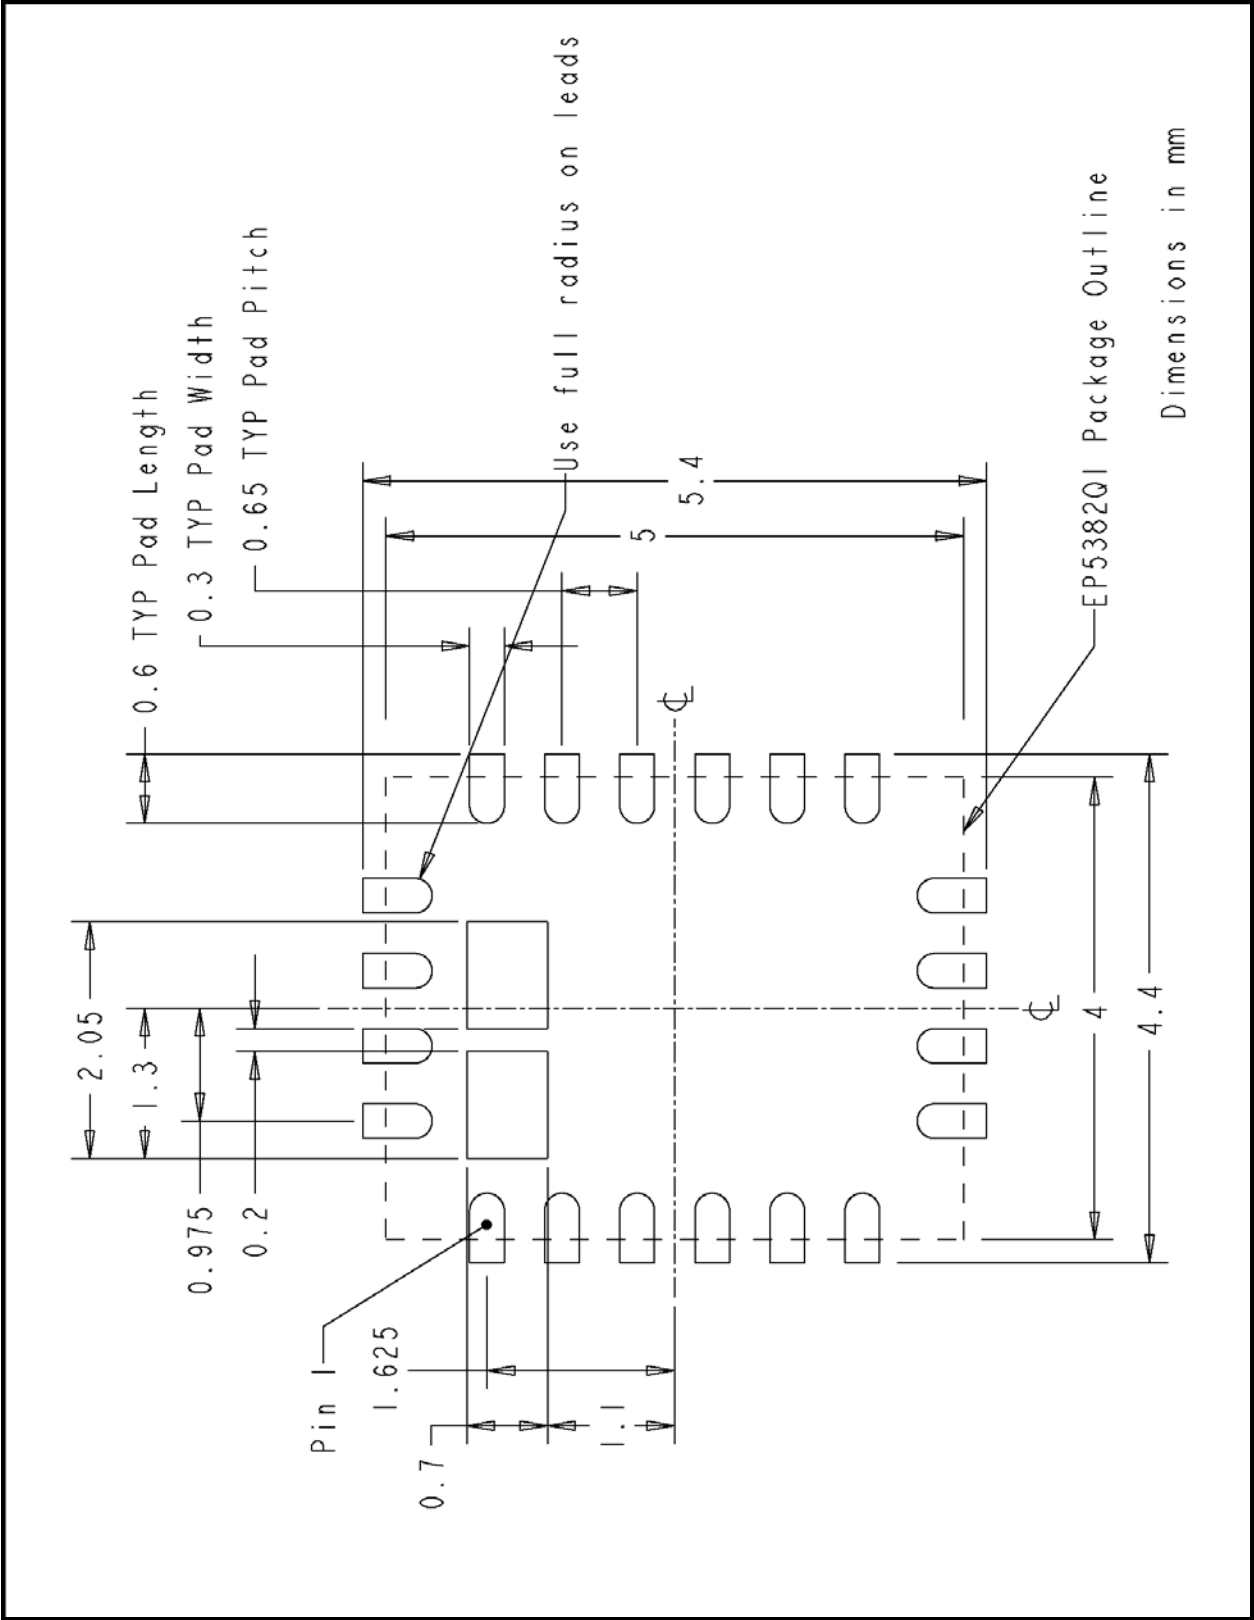

Figure 5 Solder stencil aperture layout for the EP5382QI QFN package
Figure 5 shows the solder stencil aperture layout for the EP5382QI QFN package.
- If open through-hole plated vias are used in the PCB GND pad then the stencil aperture opening should have a size ratio of 0.95:1. Note: the quantity and diameter of the vias will determine the amount of solder that will flow into the vias during reflow reducing the solder volume between the EP5382QI GND pad and the PCB GND pad. The solder stencil aperture layout should use one large aperture opening for the GND pad with dimensions as shown in Figure 5.
- If plugged and capped through-hole vias are used in the PCB GND pad then the stencil aperture opening should have a size ratio near 0.50:1. Note: less solder paste will be required since the vias will not fill with solder during reflow. The solder stencil aperture layout should use two small aperture openings (known as a window pane solder stencil aperture) for the GND pad with dimensions as shown in Figure 5.